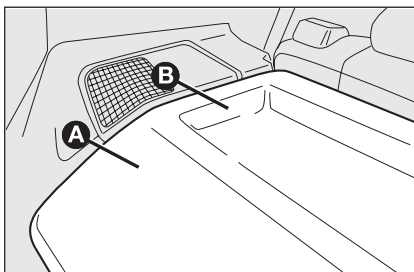
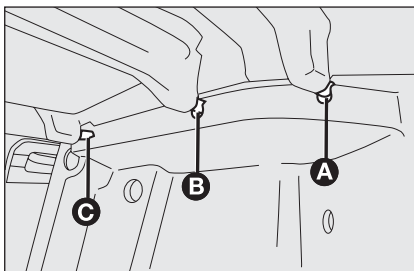
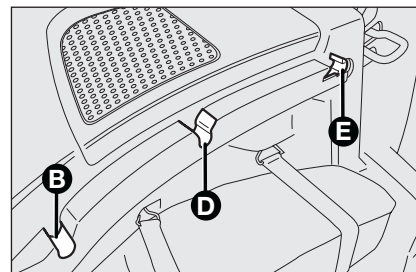

fig. 74
fig. 75
fig. 76
- ☐ open the luggage compartment tailgate, lift up the front section **A-fig. 74** releasing the pin **A-fig. 75** from the housings **B-fig. 76**;
- ☐ lift the rear section **B-fig. 74** releasing the pins **B** and **C-fig. 75** from the housings **D** and **E-fig. 76**;